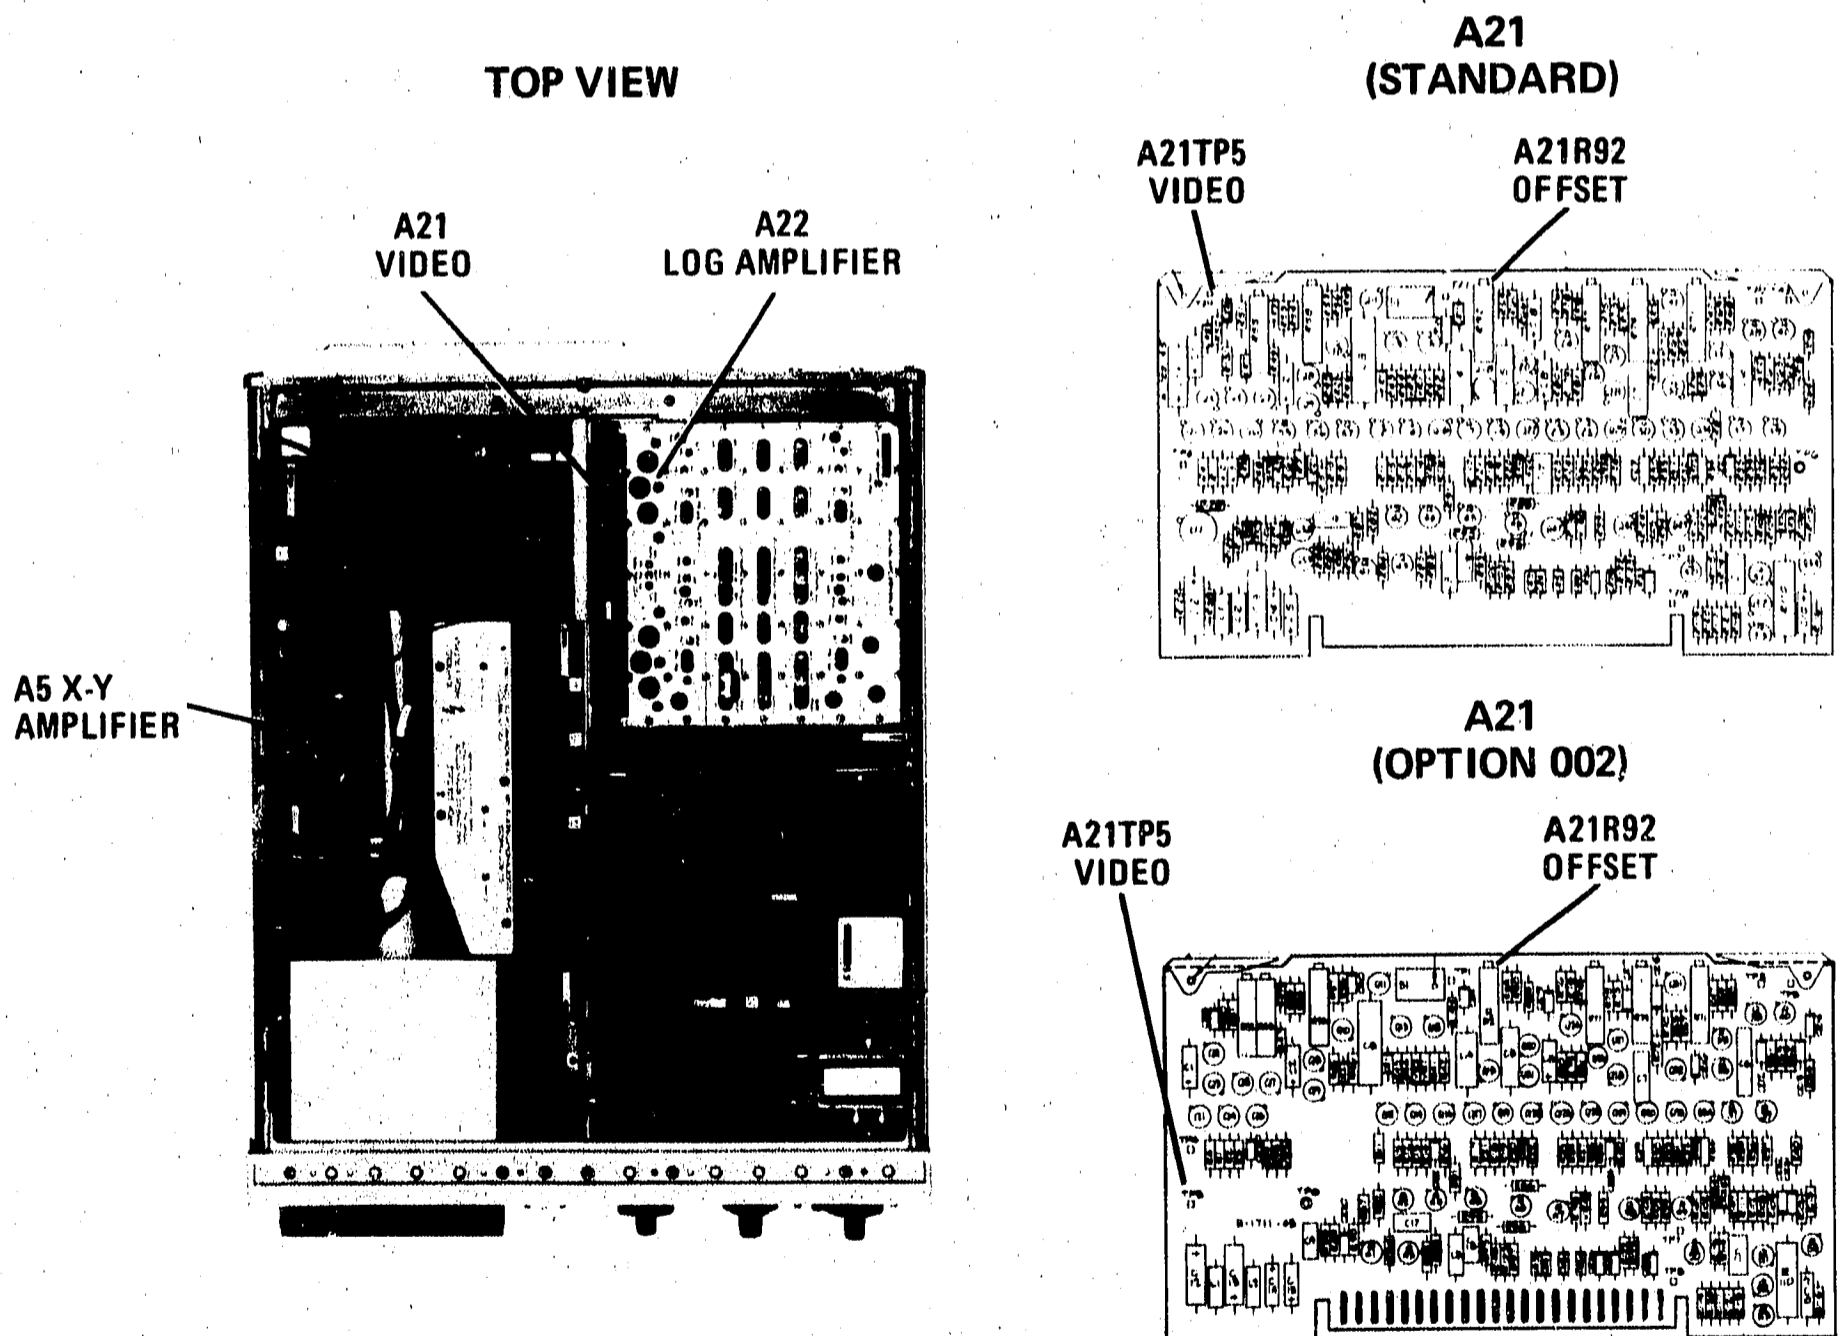

Figure 5-19. Video Offset Adjustment Locations
7. Adjust A5R27 VERT GAIN (Figure 5-19) to set signal level on REFERENCE LEVEL graticule line. (Refer to Horizontal and Vertical Gain Adjustments.)